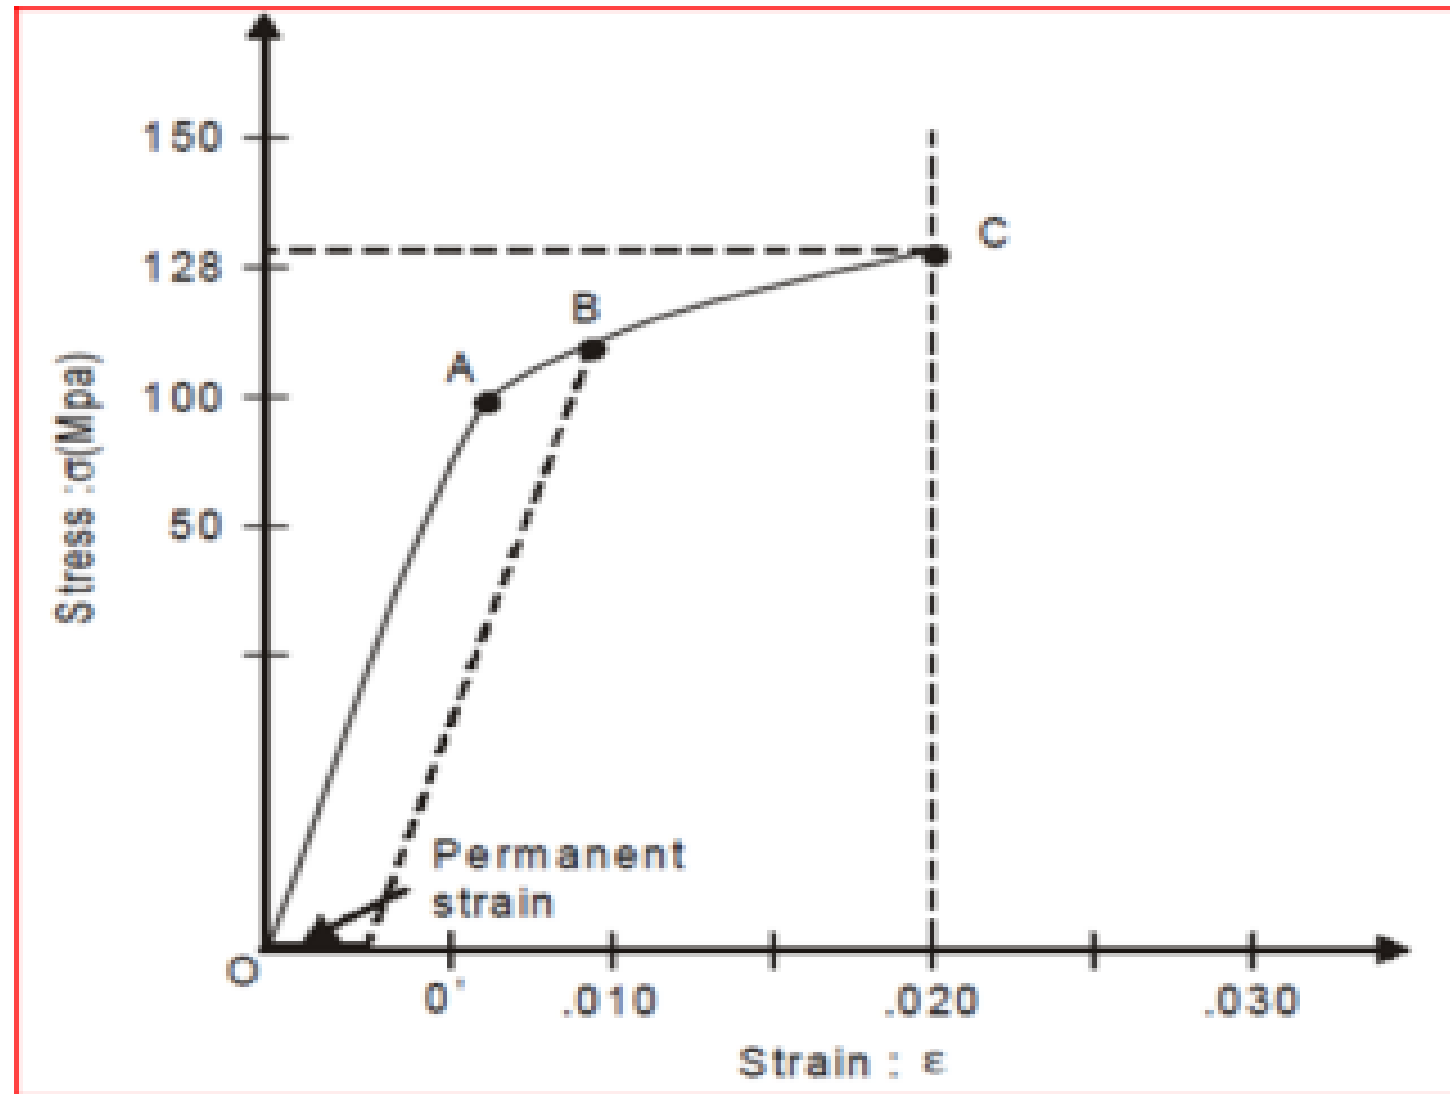

Fig. 3 Stress and strain of the cortical bone during tensile loading
3. The stress and strain diagram for the cortical bone under tensile loading is shown in Fig. 3.